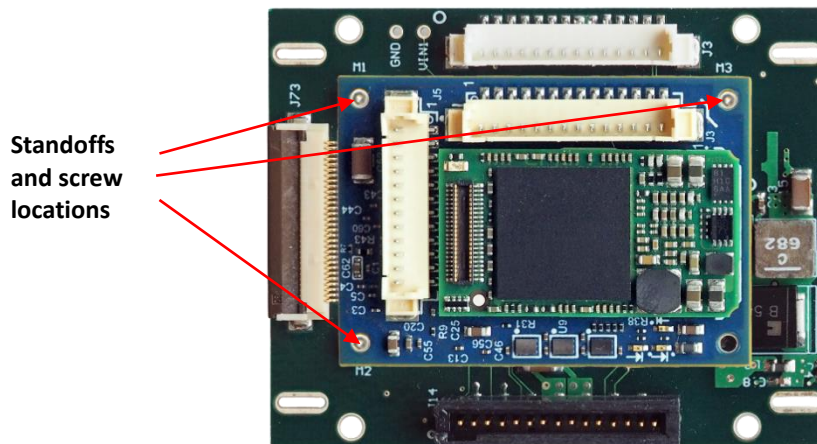

Figure 2: 1500-OEM + 1500-RAB
1. Attach 1500-OEM J4 to 1500-RAB J40. Insert three (3) standoffs and three (3) M1.6 screws to lock the 1500-OEM in place (Figure 2).